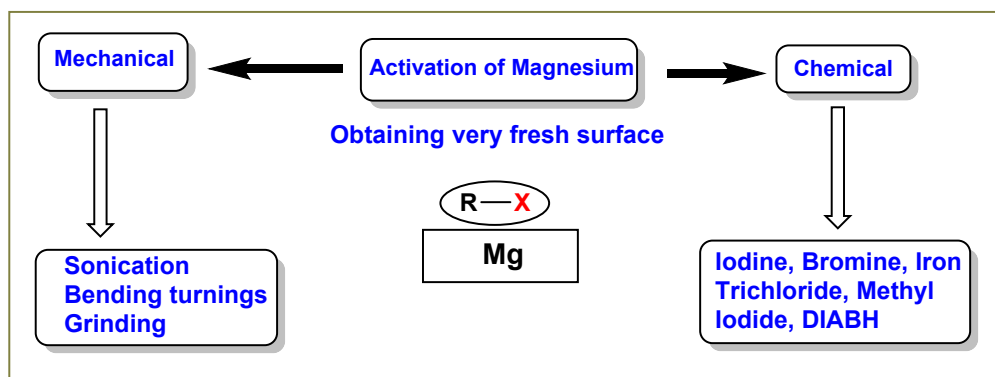

Figure 6. Activation of Magnesium Metal for GR Reaction
- Activate the magnesium (Fig. 6). Typically, this is done by adding a catalytic amount of iodine (a few crystals) or a few drops 1,2-dibromoethane (remove the stopper and add through the neck of the flask, maintain the inert atmosphere).